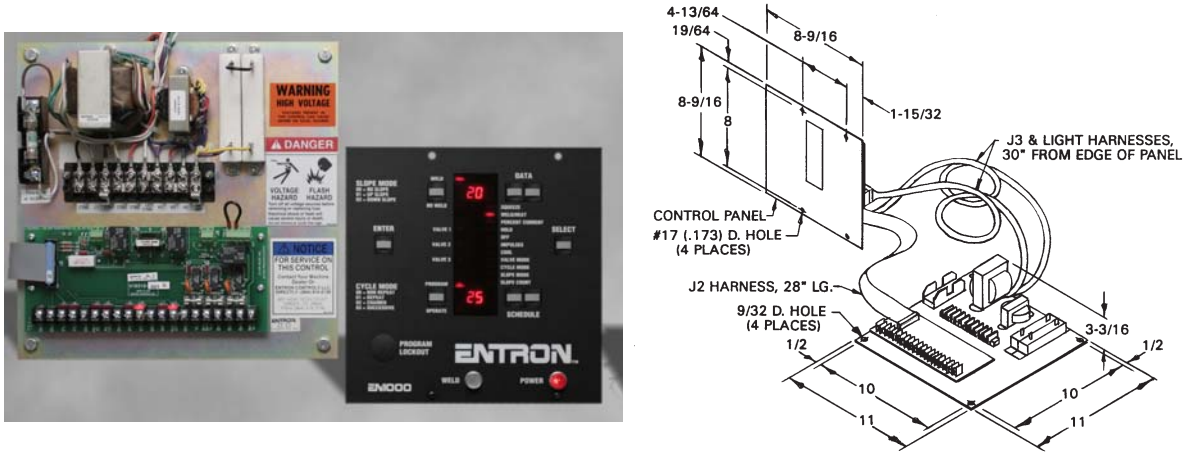

Figure 3-10. Installation and mounting for 11x11 Flat Plate
EN1000 and EN1001 Controls are available in Flat Plate (FP) and Integrated Modular Unit (IMU) component forms. Installation and mounting diagrams for these controls are shown in Figures 3-10, 3-11, 3-12, and 3-13.